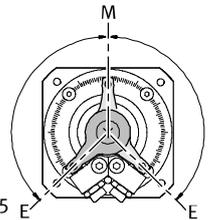

Fig. 15
- If possible use symmetric angle settings that follow line of symmetry M of the DSM (Fig. 15). These produce a more even movement between right-hand and left-hand swivelling movements.